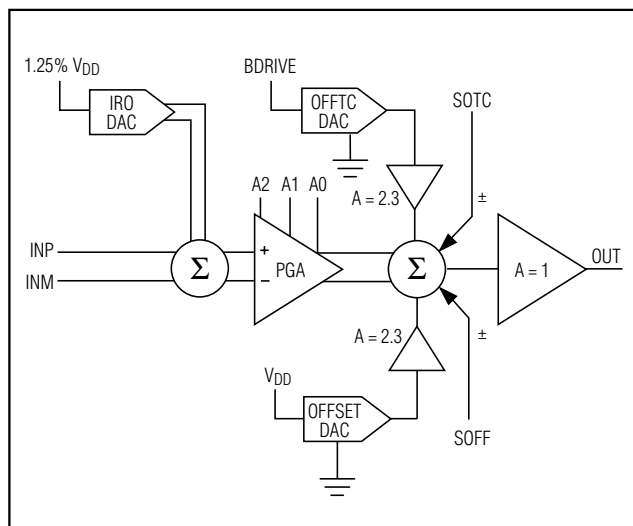

Figure 2. Signal-Path Block Diagram
junction to correct the error. Use the Offset TC DAC to adjust the amount of  $BDRIVE$  voltage that is added to the output summing junction (Figure 2).
- Differential to single-ended output buffer (Figure 2)